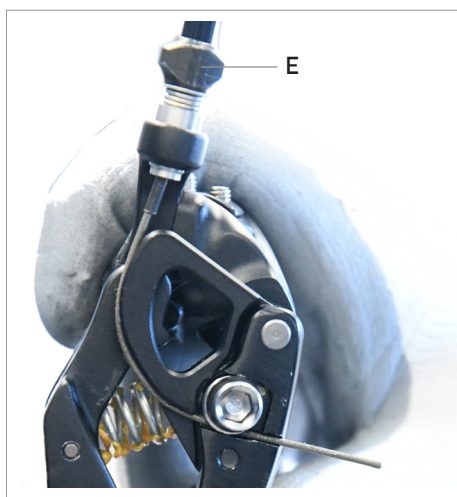

Fig.22
- Turn the cable tension adjuster (E - Fig. 22) until perfect alignment is obtained between the centreline of the top roller and the centreline of the 5TH sprocket.
- If centering between the centrelines of the roller and the fourth sprocket is not correct, turn the adjuster (E - Fig. 22) counterclockwise to shift the rear derailleur inwards. Turn clockwise to shift the rear derailleur outwards.